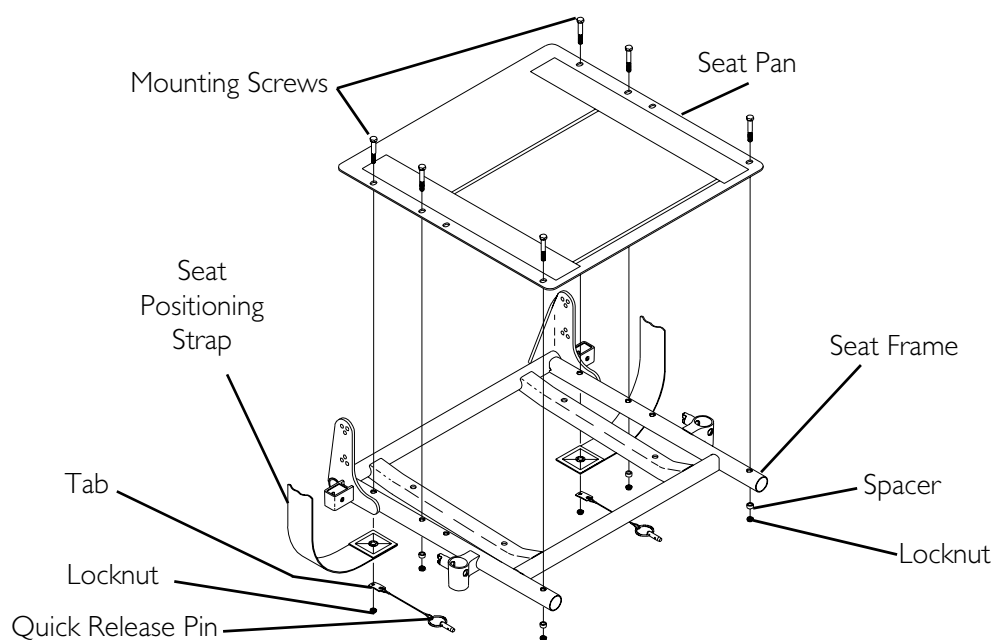

FIGURE 7.4 Removing/Installing the Seat Pan
NOTE: For this procedure, refer to FIGURE 7.4 on page 62.
3. Remove the four mounting screws, locknuts and four spacers securing the seat pan to the seat frame (FIGURE 7.4).